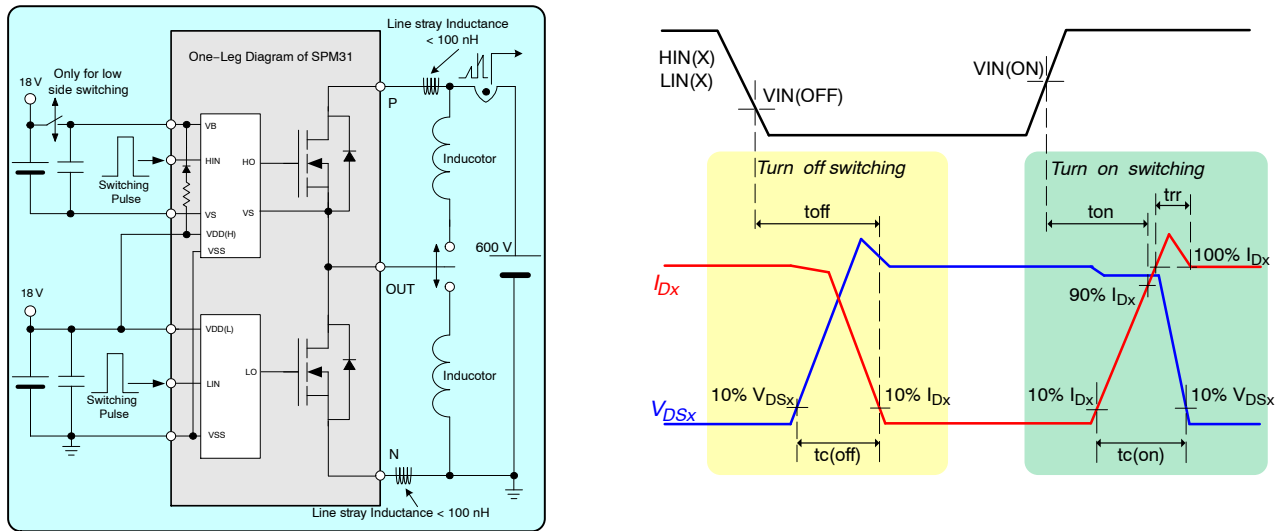

Figure 8. Switching Evaluation Circuit and Switching Time Definition
7. ton and toff include the propagation delay time of the internal drive IC. tc(on) and tc(off) are the switching time of MOSFET itself under the given gate driving condition internally. For the detailed information, please see and Figure 8.